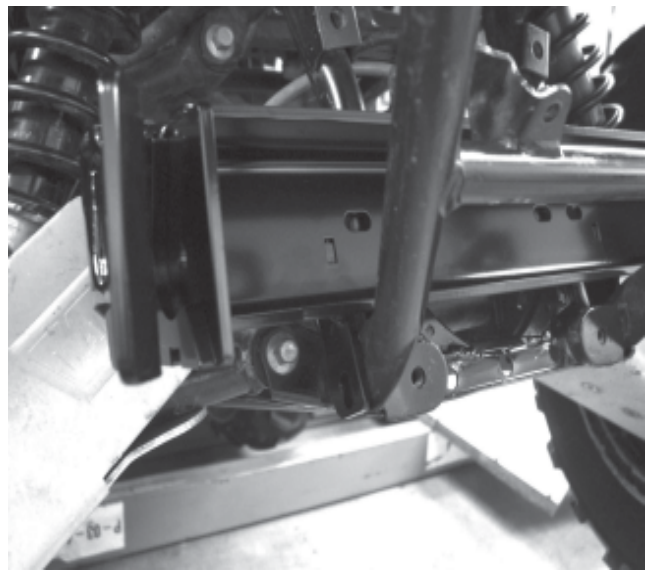

Figure 2
3. Slide plow mounting plate into place from the side opening of ATV (Figure 2). The plow mounting plate should sit in front of the frame rails. The two lower mounting tabs of the plow mounting plate will align with the M8 fasteners removed in step 2.